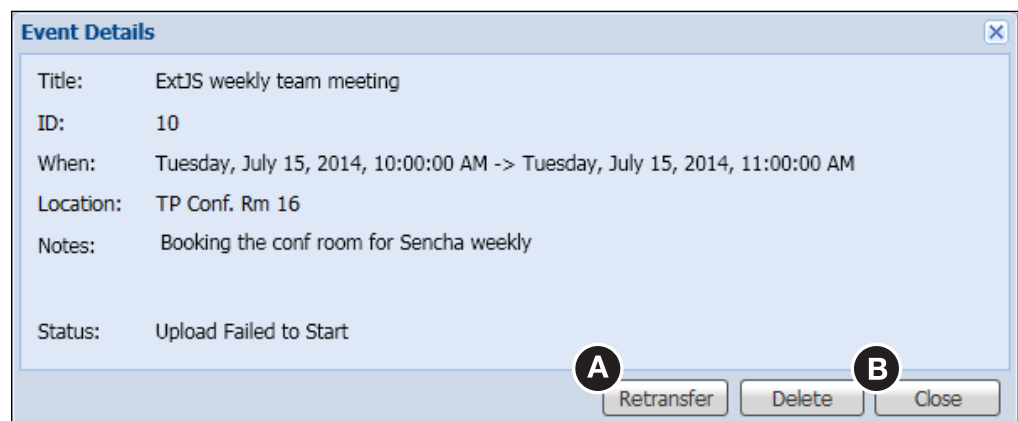

Figure 38. Event Details Dialog
3. Click **Retransfer** (see figure 38, **A**). The status changes first to **Admin Requested Reupload**, then to **Uploading to Server**.
There are two methods for deleting recordings: one automatic (see Automatic Recording Deletion on page 134), and one manual via the **Event Details** dialog box (see figure 38 on page 64) in the **Scheduled Events** page. This manual method is described as follows.